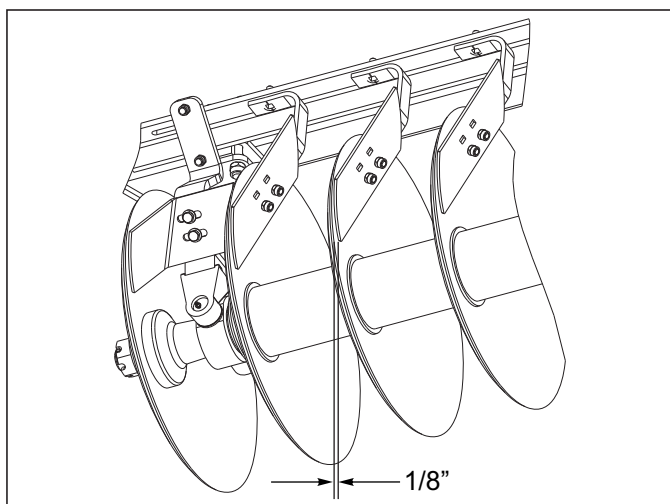

Figure 4-1: Disc Scraper Clearance to Disc Blade
5. Check disc scrapers for proper adjustment to the disc blade **See Figure 4-1**